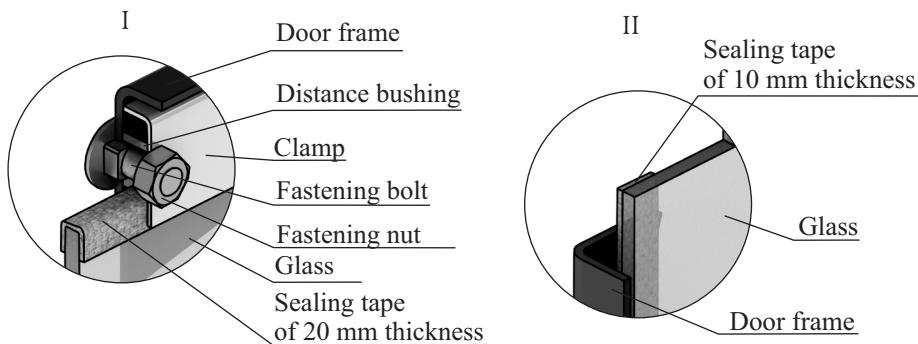

Figure 18. Fastening of translucent screen of the "Vitra" model door
1. Unscrew two nuts fixing the clamp (fig.18.I), and disassemble it and distance bushings.
3. Take new glass and if it doesn't have thread sealing tape stick them: tape of 20 mm in width is stuck from the top and from below the glass, in a «Π» shape (fig. 18.I), tape of 10 mm in width is stuck vertically, along the lateral sides of the glass (fig. 18.II).
4. Insert the glass into the stop, at that the tape stuck from the lateral sides (vertical) shall be pressed between the glass and the door frame (fig. 18.II).
ATTENTION! Nuts fastening the clamp are screwed to the mounting bolts through the remote plugs (Figure 18.I).